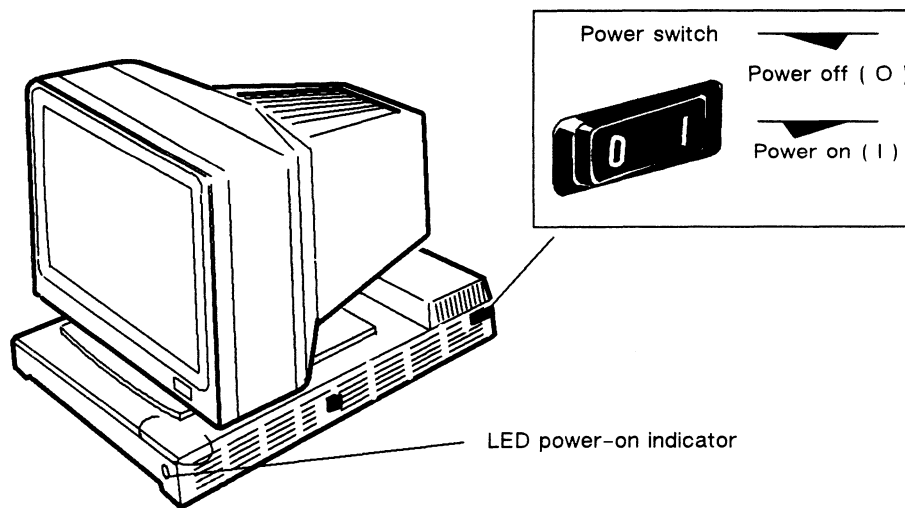

Figure 3-3 Computer Unit Power Switch and LED Power-on Indicator
3. Turn on power to the computer unit by pressing the computer unit's power switch as shown in Figure 3-3. Check the monitor screen. The screen will turn white for about four seconds and then go blank. If the monitor does not behave in this manner, refer to Chapter 4, "Solving Power-up Problems."